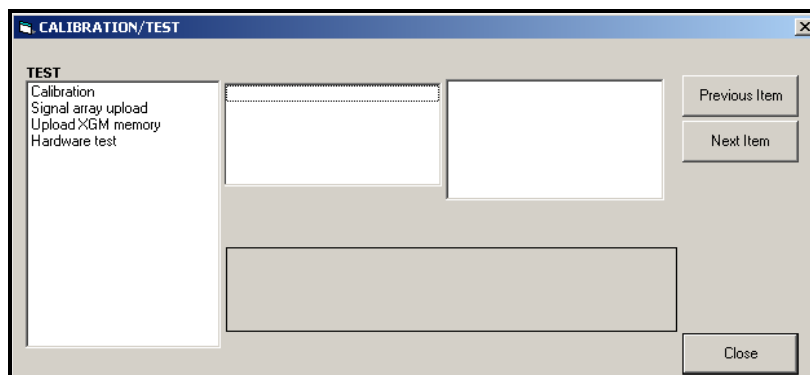

Figure 10: The *Calibration/Test* Menu
5. To enter data into the user program, double-click on the *Calibration/Test* menu. The window appears similar to Figure 10.
1. From the *Calibration/Test* menu (see Figure 10 on page 42), double-click on the *Calibration* entry to open the option.
To calibrate any option card installed in Slot 1 of the XGM868i, enter the *Calibration/Test* menu as shown in Figure 10 on page 42.